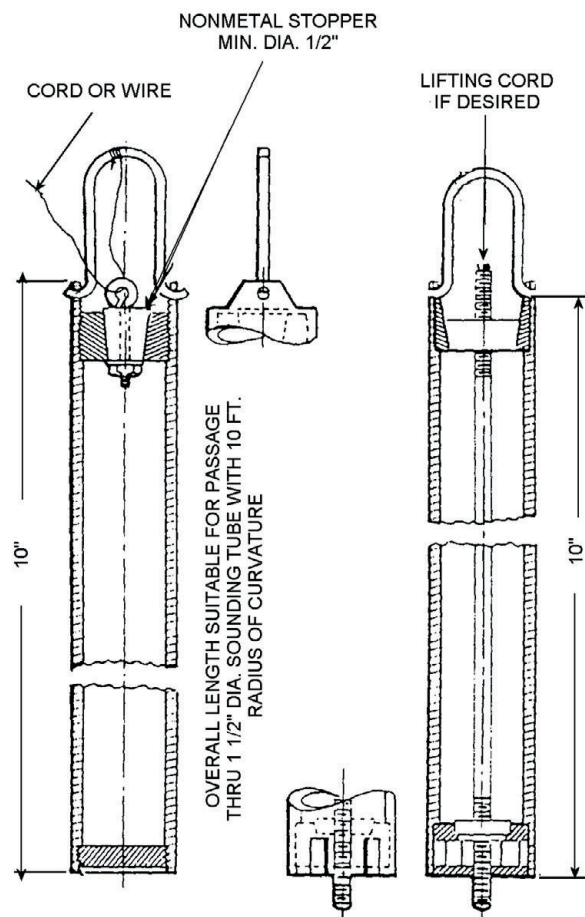

Figure 1-3.—Thief samplers.
This sample is one obtained by submerging a closed sampler (fig. 1-3 "thief") to a point as near as possible to the drawoff level, then opening the sampler and raising it at such a rate that it is nearly but not quite full as it emerges from the liquid.
9. To obtain a composite or bottom sample of a fuel storage tank, there are two types of thief samplers shown in (fig. 1-3). Both can be used in a standard 1-1/2 inch diameter sounding tube. Type A is used where it is not necessary to obtain a sample from the very bottom of a tank. Type B can be used (if rigged properly) for any level or bottom sampling.